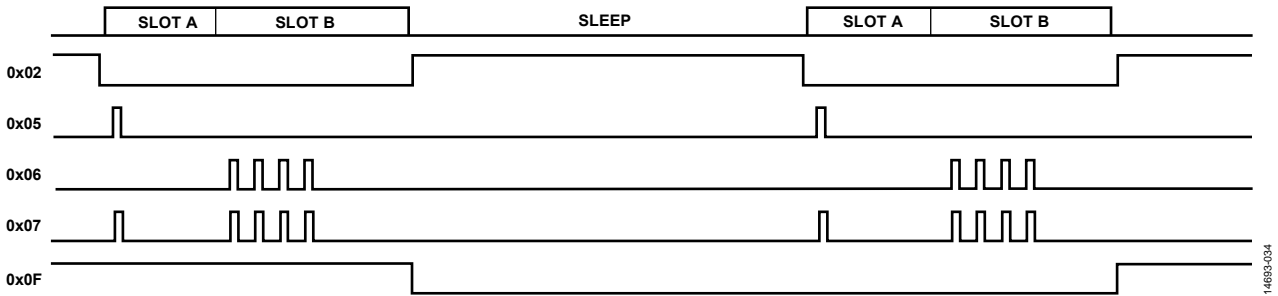
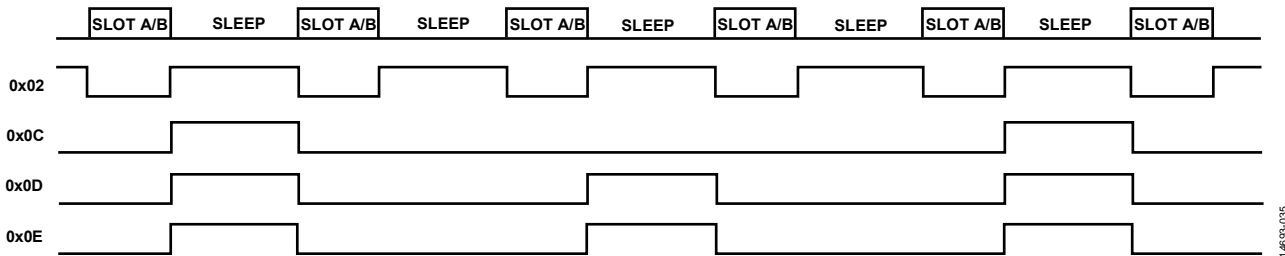

Figure 41. Optional Timing Signals Available on GPIOx—Register 0x0B, Bits[12:8] or Bits[4:0] = 0x02, 0x05, 0x06, 0x07, and 0x0F
Figure 42. Optional Timing Signals Available on GPIOx—Register 0x0B, Bits[12:8] or Bits[4:0] = 0x02, 0x0C, 0x0D, and 0x0E
The various available timing signals are controlled by the settings in Register 0x0B. Bits[12:8] of this register control the timing signals available on GPIO1, and Bits[4:0] control the timing signals available on GPIO0. All of the timing signals described in this data sheet are available on either (or both) of the GPIO0 and GPIO1 pins. Timing diagrams are shown in Figure 41 and Figure 42. The time slot settings used to generate the timing diagrams are described in Table 24.
**Table 24. ADPD105/ADPD106/ADPD107 Settings Used for Timing Diagrams Shown in Figure 41 and Figure 42**